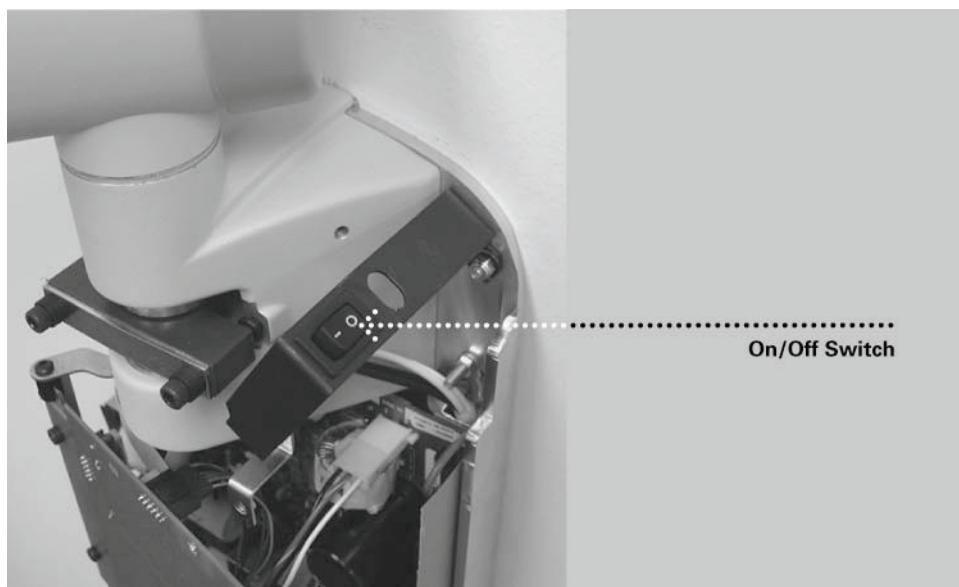

Figure 27
3. Turn on the Preva Dental X-Ray System using the power switch, as shown in Figure 26. On the Operator Panel, Figure 27, you will see the product display screen showing the software version. Then the Operator Panel will display the default technique factors.